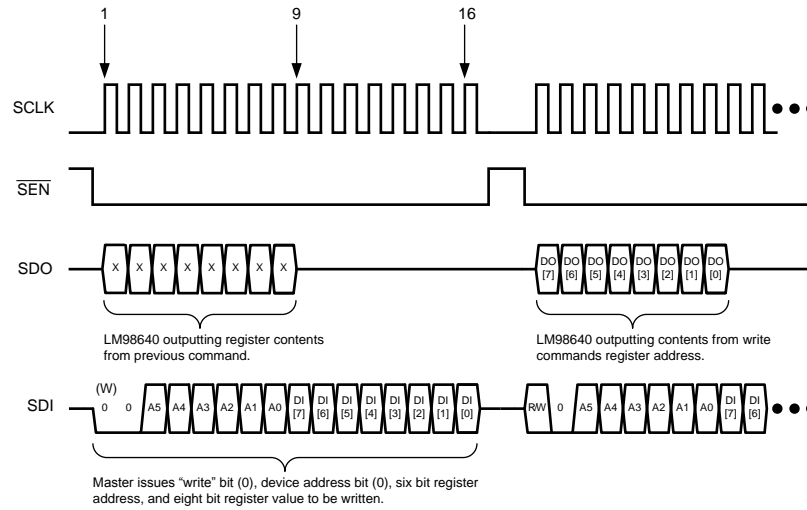

Figure 28. Four Wire Serial Write
To write to the serial registers using the four wire interface, the timing diagram shown in Figure 28 must be met. First,  $\overline{\text{SEN}}$  is toggled low. At the rising edge of the first clock, the master should assume control of the SDI pin and begin issuing the write command. The write command is built of a "write" bit (0), device address bit (0), six bit register address, and eight bit register value to be written. SDI is clocked into the LM98640QML at the rising edge of SCLK. The LM98640QML assumes control of the SDO pin during the first eight clocks of the cycle. During this period, data is clocked out of the device at the rising edge of SCLK. The eight bit value clocked out is the contents of the previously addressed register, regardless if the previous command was a read or a write. When  $\overline{\text{SEN}}$  toggles high, the register is written to, and the LM98640QML now functions with this new data.